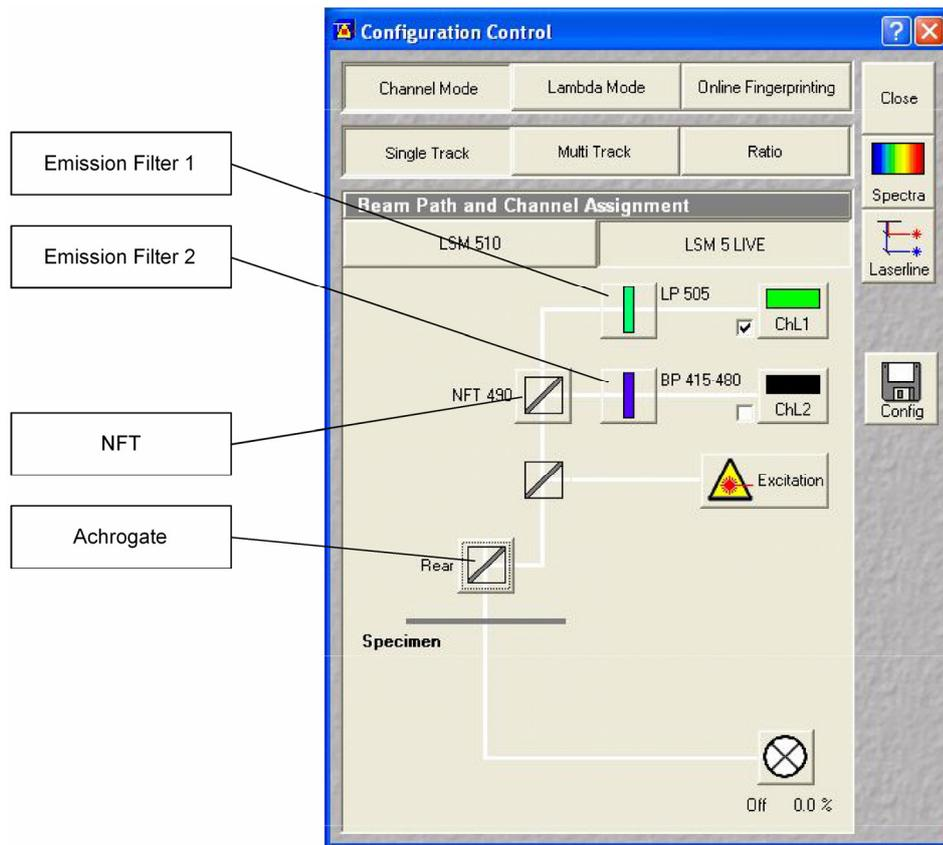

Fig. 4-52 Configuration Control window
**Configuration Control** window (Fig. 4-52). The numbers of the emission filters correspond to those of the channels lying behind (PMT photomultipliers).
- On the **Beam Path and Channel Assignment** panel, click on the Achrogate main beam splitters  (see Fig. 4-52).